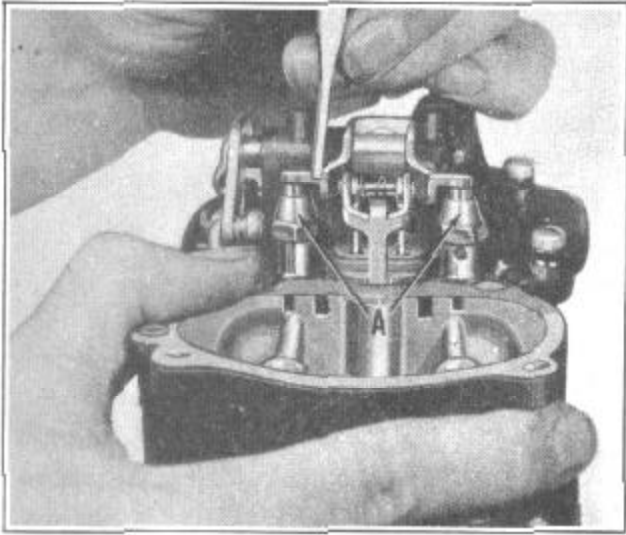
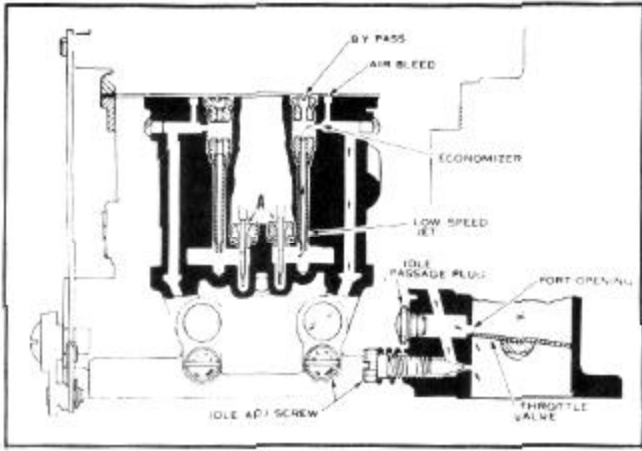
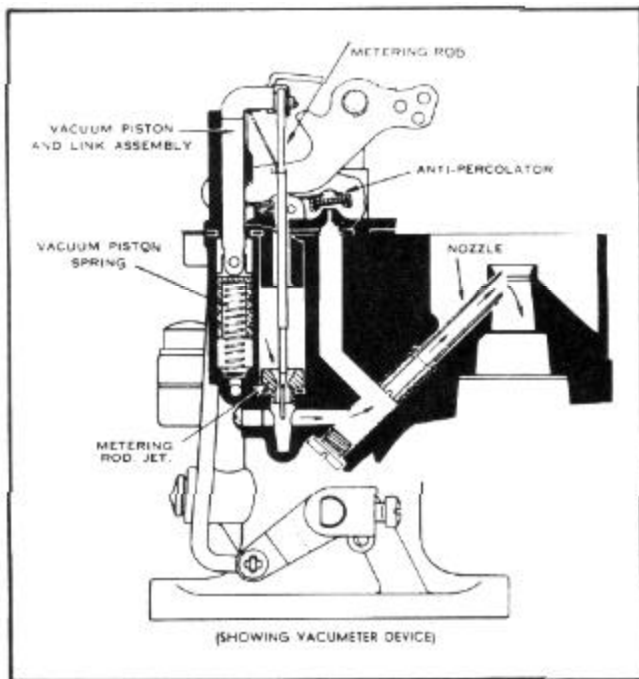

FIGURE 2
FIGURE 5
FIGURE 6
The WDO carburetors are equipped with two anti-percolator valves of the poppet type (A), Figure 2. The WA1 carburetor has one saxophone key type anti-percolator valve, Figure 6.
The amount of fuel admitted to the carburetor throat through the high speed circuit is controlled by stepped and tapered metering rods. Two metering rods are used on the WDO (A), Figure 5, and one on the WA1 carburetor, Figure 6.